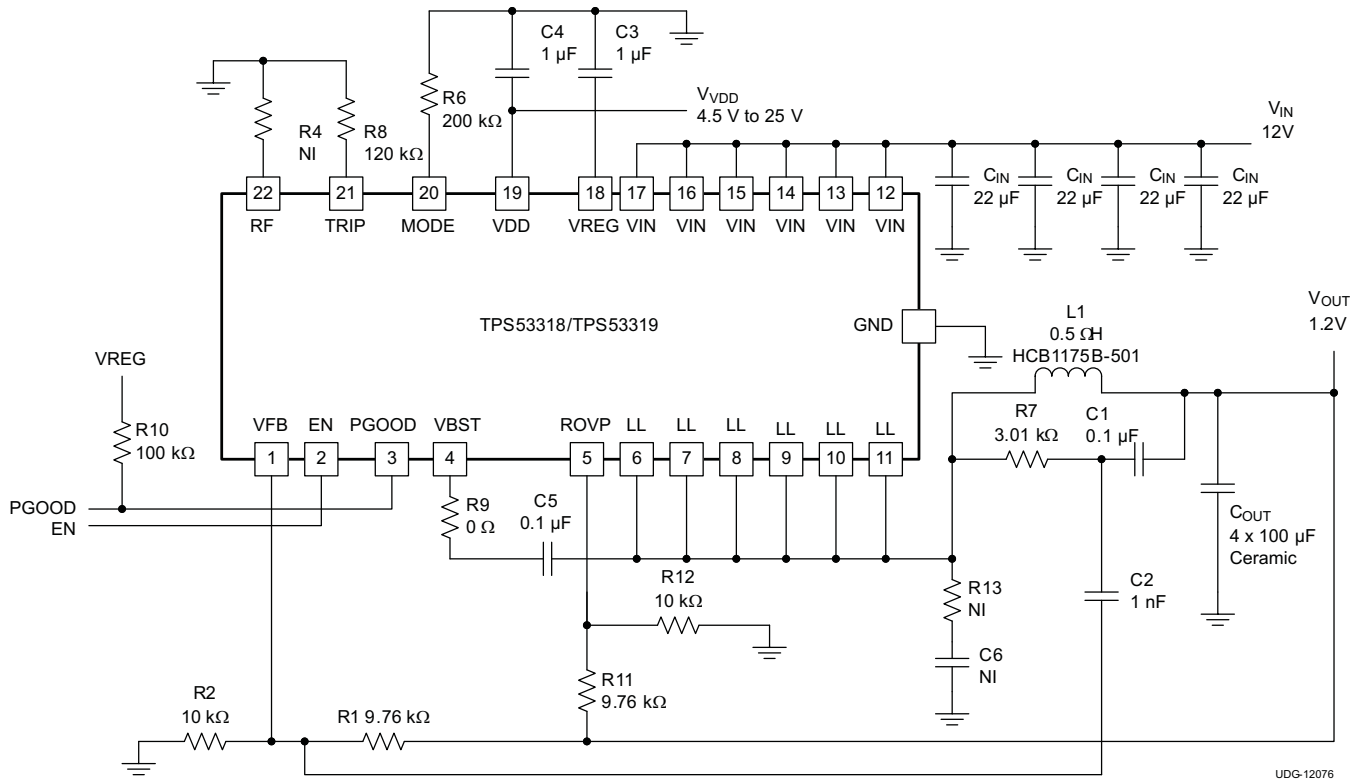

Figure 1. Typical Application Circuit with Ceramic Output Capacitors, ROVP Function Used
(1) Not production tested. Test condition is $V_{IN} = 12\text{ V}$, $V_{OUT} = 1.2\text{ V}$, $I_{OUT} = 5\text{ A}$ using application circuit shown in Figure 1.
(2) Ensured by design. Not production tested.